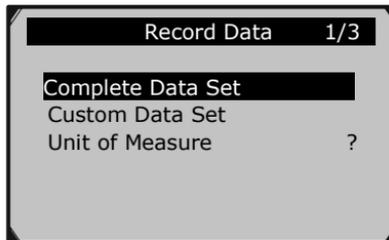

Figure 5.20
1. To record customized data, use the **Up/Down** scroll button to select **Custom Data Set** from **Record Data** menu (See **Figure 5.20**) and press the **OK** button.